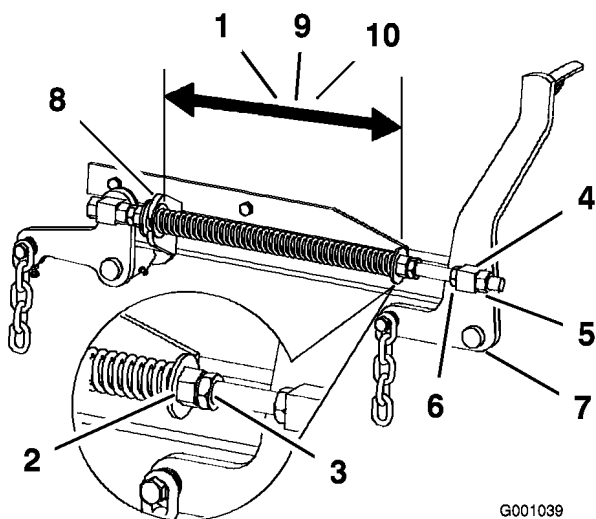

Figure 66
2. Check the distance between the two large washers, it needs to be 11-1/8 inches (28.2 cm) for 52 inch mower decks, 10-1/2 inches (26.7 cm) for 60 inch mower decks or 11-1/2 inches (29.2 cm) for 72 inch mower decks (Figure 66).
3. Adjust this distance, by loosening the spring jam nut and turning the nut in front of each spring (Figure 66). Turning the nut clockwise will shorten the spring; counter-clockwise will lengthen the spring.
4. Lock the nut into position by tightening the spring jam nut (Figure 66).